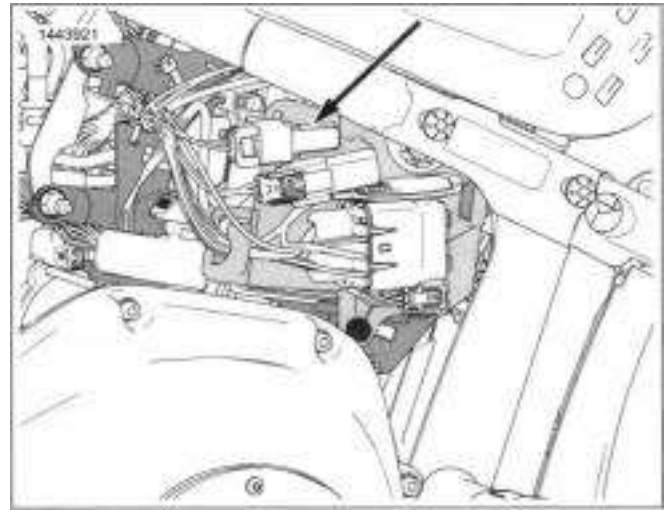

Figure 7-119. CAN Terminating Resistor
1. See Figure 7-119. Remove terminating resistor.
1. See Figure 7-119. Install terminating resistor.